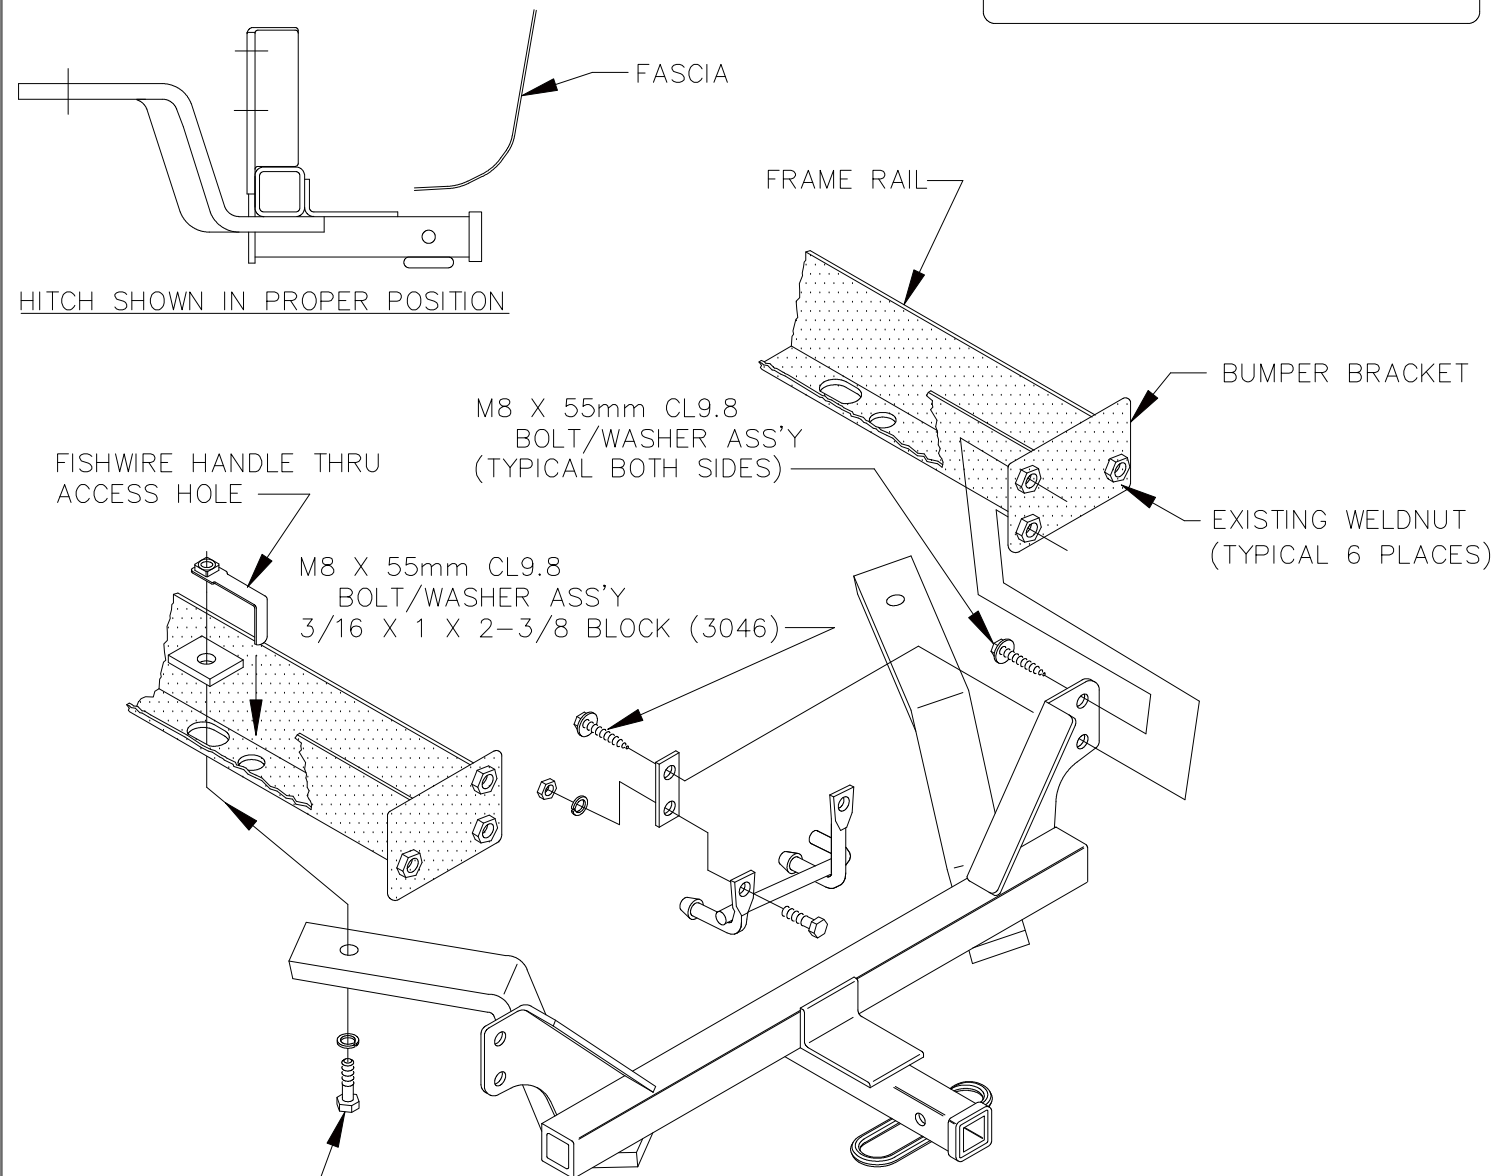

FIGURE 1
- LOOSELY REINSTALL ONLY THE EXISTING M8 BOLT(S) THRU THE OUTBOARD WELDNUT(S).
- FISHWIRE 1/2" HANDLE NUTS (1332) AND BLOCKS (1097-002) THRU LARGE SLOTS AS SHOWN FIGURE 1.
- RAISE HITCH INTO POSITION AND LOOSELY INSTALL M8 FASTENERS PROVIDED, THRU BLOCKS (3046), HITCH, AND BUMPER BRACKET(S), INTO THE EXISTING WELDNUT, AS SHOWN IN FIGURE 1.
- INSTALL 1/2" FASTENERS THRU THE HITCH AND FRAME RAILS INTO THE HANDLE NUTS, AS SHOWN FIGURE 1.
- REINSTALL EXHAUST SYSTEM(S) TO HANGER BRACKETS.
- INSTALL EXHAUST HANGER FASTENERS AS SHOWN IN FIGURES 1 & 2.